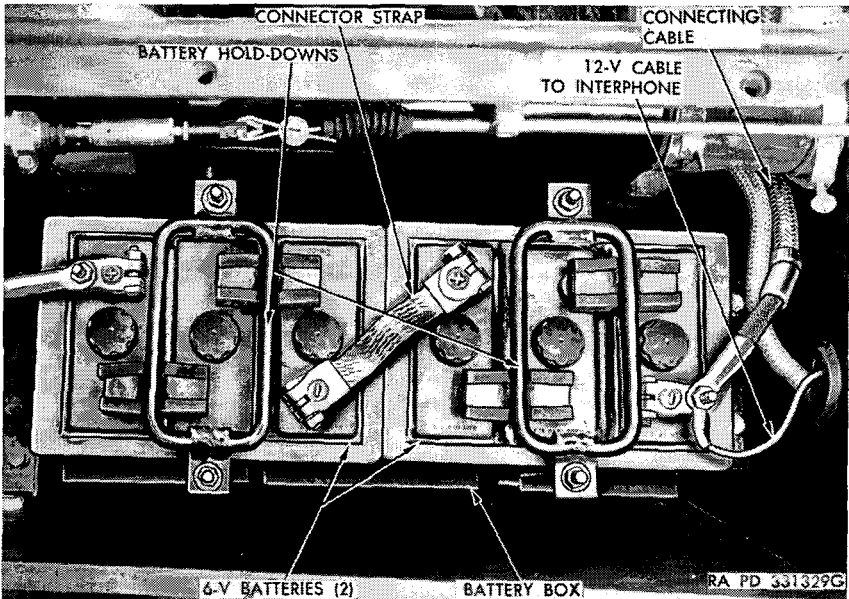

Figure 90. Battery installed.
c. INSTALLATION OF TANKS AND BATTERIES (fig. 74). Lower fuel tank into compartment. Install three flat spring spacers between fuel tank and inner compartment, sliding into groove provided. Install retaining screws. Position fuel tank compartment angle brackets around opening, making sure that the seals are in proper position, and install attaching screws. Lower battery box into position and install battery box mounting screws. Place batteries in battery box and install hold-downs. Connect batteries in series so that the positive terminal (right batteries) is toward rear of vehicle (fig. 90). Negative terminal on left batteries should be toward rear of vehicle. Connect terminals to batteries. Place shut-off valve against inner compartment wall and install two attaching screws. Connect fuel lines to shut-off valve and nipple on fuel pump support assembly and tighten hose clamp. Install three screws and clamps holding conduit to inner fuel compartment angle bracket. Connect ground strap to top of fuel pump support assembly and connect cable to terminal. Install rubber guard over terminal. Position fuel tank cover and battery cover over openings and install attaching screws.
- (1) *Battery.* A 24-volt electrical system is employed in this vehicle. The battery consist of four separate 6-volt, 118-ampere-hour, 3-cell units connected in series. Two 6-volt batteries are carried in battery boxes on each side of the vehicle at the bulkhead above the fuel tanks (fig. 90) and are connected in series by a cable clipped to the bulkhead.
f. **REMOVING BATTERY.** Turn master battery switch to "OFF" position. Remove five screws holding battery box cover in position and remove cover. Remove hold-down bolts and lift hold-downs out of position (fig. 90). Remove connector cable from battery post by loosening bolt in connection. Place cable out of position. Remove master battery switch cable from battery. Remove bolt holding connector strap to post connection. This will leave strap connected to the other battery. Lift battery out of battery box and remove from vehicle.
g. **INSTALLING BATTERY.** Turn master battery switch to "OFF" position. Lift two batteries into place in battery box with one positive and one negative battery post together in the center (fig. 90).